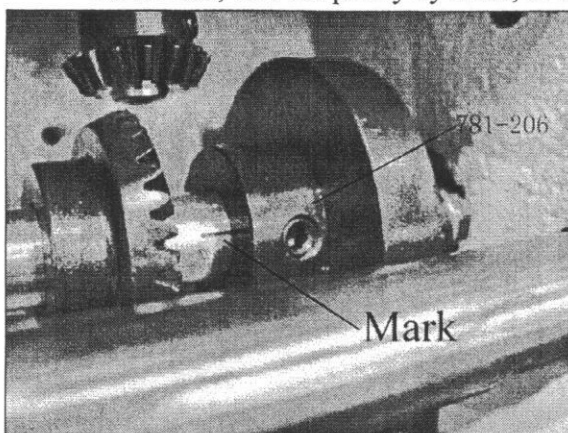
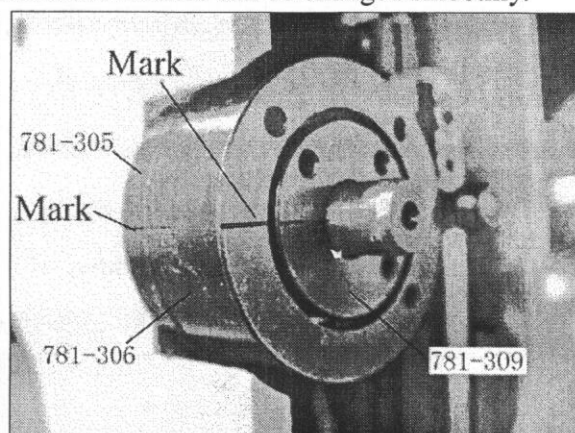

Fig.10
Fig.11
### 4.2 Adjusting the exchange of needles (Fig.10、 Fig.11)
- Adjust the cam (781-206), till the alignment mark on the side of cam (781-206) is in alignment with the alignment mark on the main shaft. (Fig.10)
- Loosen 2 screws on sprocket wheel (781-302), turn the outer flange (781-306) till the alignment mark on its surface is alignment with the alignment mark on the front flange (781-305). Retighten 2 screws on sprocket wheel (781-302) at last. (Fig.11)
alignment mark on its surface is alignment with the alignment mark on the outer flange (781-306). Retighten 2 screws on sprocket wheel (781-301) at last. (Fig.11)